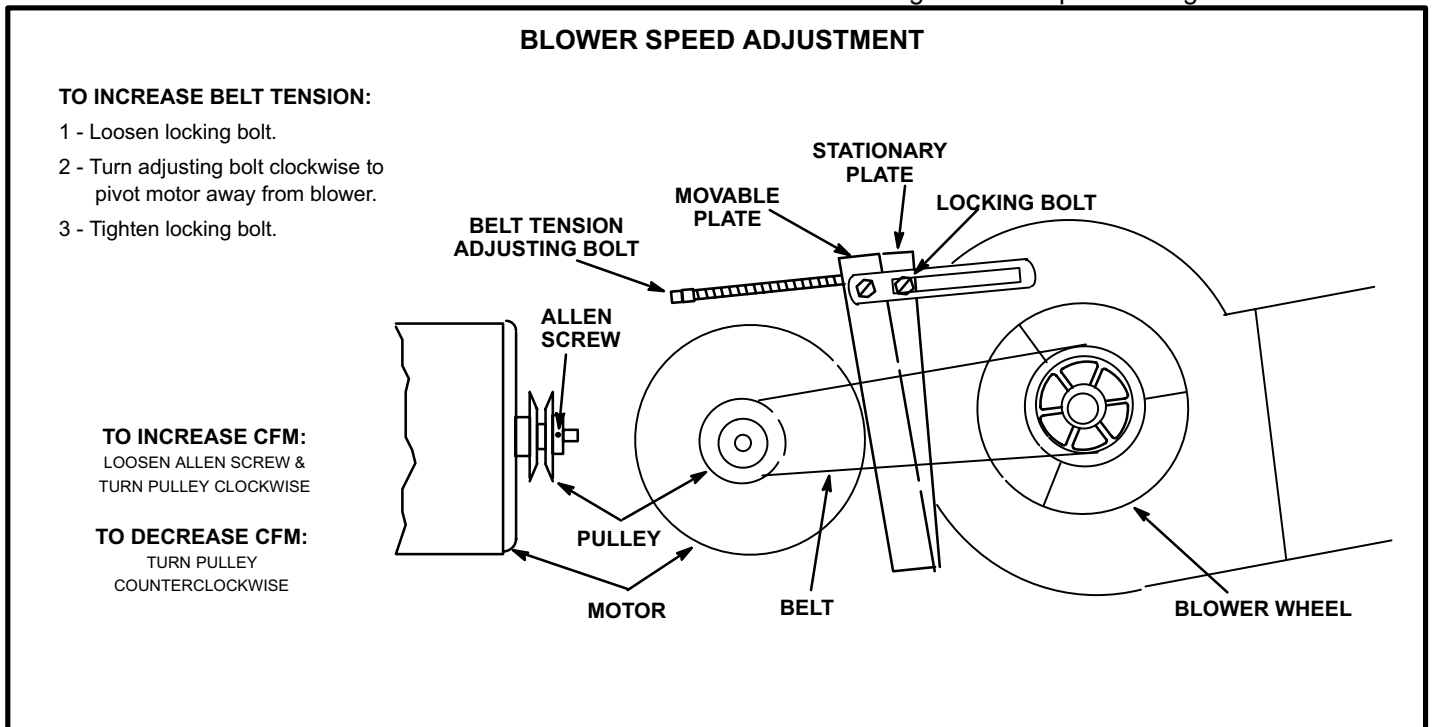

FIGURE 23
- 5- The CFM can be adjusted at the motor pulley. Loosen Allen screw and turn adjustable pulley clockwise to increase CFM. Turn counterclockwise to decrease CFM. See figure 23.
Maximum life and wear can be obtained from belts only if proper pulley alignment and belt tension are maintained. Tension new belt after a 24-48 hour period of operation. This will allow belt to stretch and seat grooves. To increase belt tension, loosen locking bolt and pull mounting plate. Tighten bolt so that the motor mounting plate is in a vertical position. See figure 23.
- 5 - See figure 23 for speed change instructions.